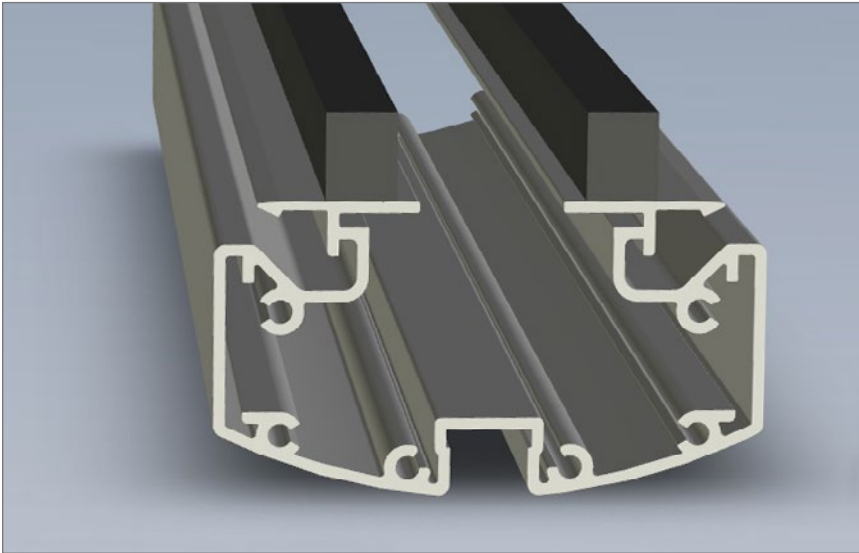

Figure 8: Glass Wall enhancement.
STEP 4: Apply QTY 1 layer of $\frac{5}{8}$ " thick x $\frac{1}{2}$ " wide (16mm x 13mm) CSF tape continuously to top of Glass Wall Horizontal extrusion on either side of Ceiling Track gap. CSF tape should be positioned on top Flanges so top Horizontal is capable of engaging Ceiling Track as well as to allow for Ceiling Trim engagement (see Figure 8).